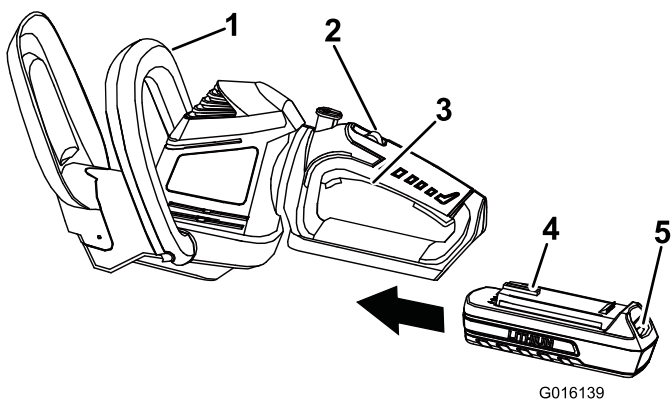

Figure 2
2. Align the tongue of the battery pack with the cavity in the handle housing (Figure 2).
3. Grasp the trigger handle (Figure 2).
5. Place one hand on the trigger handle. Place the other hand on the auxiliary handle (Figure 2).
6. Slide the lock switch backwards, towards you, then squeeze the trigger switch to turn on the hedge trimmer (Figure 2). The trimmer will stay on as long as the trigger switch is squeezed. Lock-off switch may be released once hedge trimmer is running (Figure 2).
1. Release the trigger switch (Figure 2).